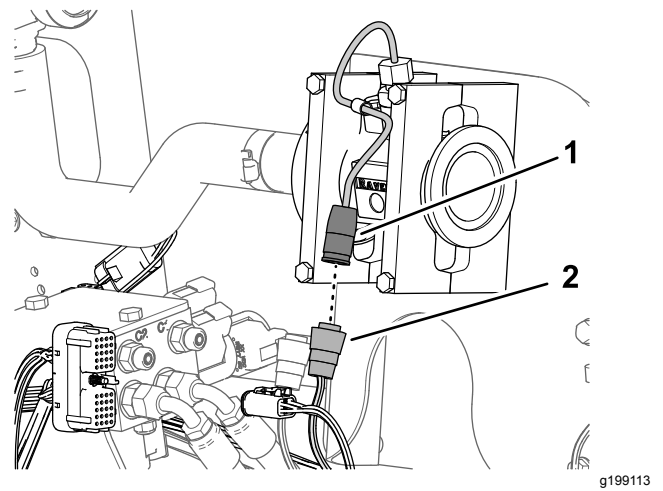

Figure 87
1. Connect the 3-socket electrical connector of the 89 cm (35 inch) wire-harness branch labeled FLOW METER into the 3-pin connector of the flow meter (Figure 87).